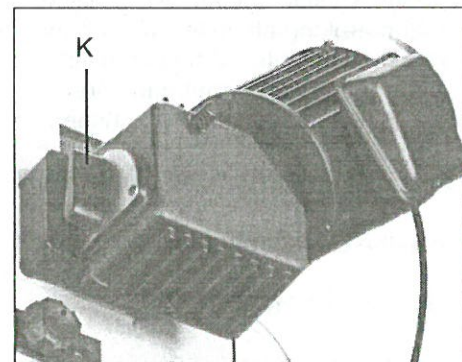

Fig. 5
2. Turn knob (K in Fig. 5) to desired speed